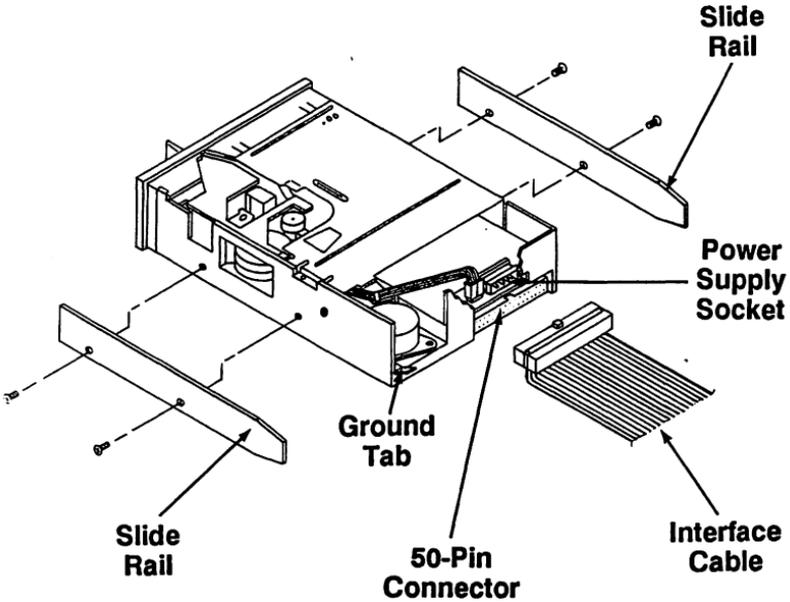

Figure 5. Attaching the Slide Rails
3. Attach the two AT slide rails to the sides of the tape drive, as shown in Figure 5, using the four #6 – 32 x 1/4" screws included in the rail kit. (Do not use the colored, shorter metric screws also packaged with the slide rails.) The tapered end of each rail should point toward the rear of the drive.
4. Attach either end of the interface cable to the 50 pin connector on the back of the tape drive. The connector is keyed so that it can be connected only one way. See Figure 5 for the location of this connector.
8. Connect the power supply wire harness from the AT to the power supply socket of the tape drive. See Figure 5 for the location of the power supply socket on the tape drive.
9. Find an unconnected grounding cable in the AT and connect it to the ground tab on the tape drive. See Figure 5 for the location of the ground tab on the tape drive.